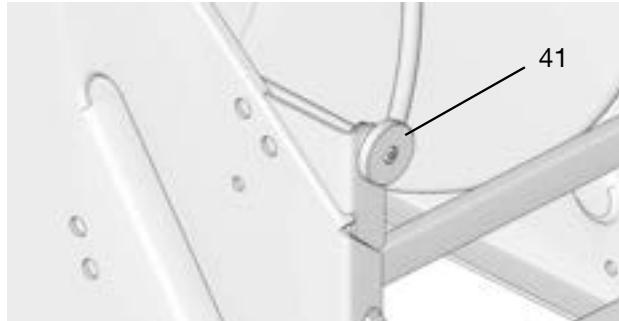

FIG. 26
Turn brake knob (41) (FIG. 26) left or right to loosen or tighten the brake tension.
- Turn knob (41) to the right to increase / tighten brake tension.
- Turn knob (41) to the left to decrease / loosen brake tension.